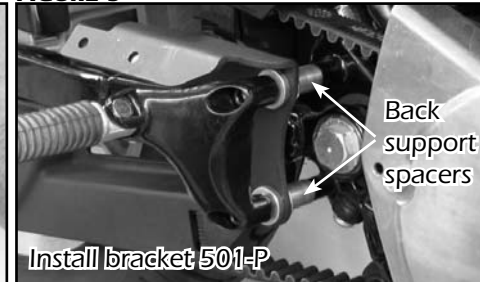

**FIGURE 2**
2. Bracket installation. (Figures 2 and 3)